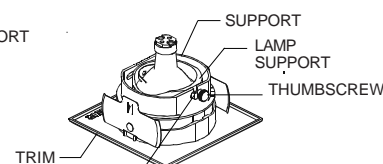

FIG.17
5. Rotate lamp support and insert hook in the small groove, install and tighten thumbscrew and insert support in the trim. (Fig.17)